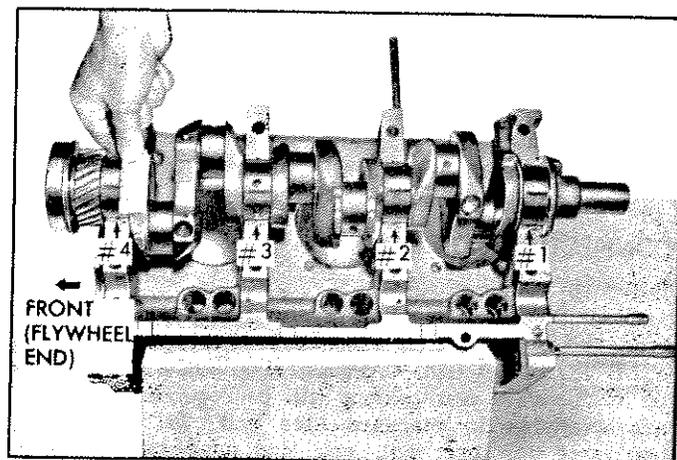

Fig. 122—Measuring Gauging Plastic on Journal
2. Place a piece of gauging plastic the full width of the bearing parallel to the crankshaft on the journal (fig. 122).
- Without removing the gauging plastic, check its compressed width (at the widest point) with the graduations on the envelope (fig. 122).
NOTE: Install a piece of plastic hose with 5/16" L.D. over each bolt (fig. 122).